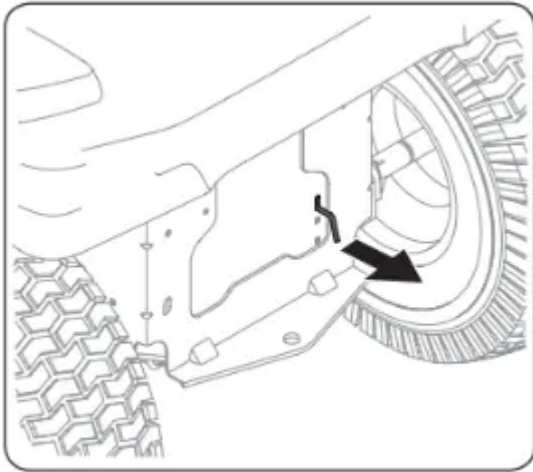

Figure 1
- Engage the transmission bypass rod to move the tractor manually without starting it. The transmission bypass rod is located on the rear of the tractor, on the frame. Engage the bypass rod by pulling out. See Figure 1.
- Disengage the bypass rod by pushing the rod back in after moving the tractor. See Figure 1.